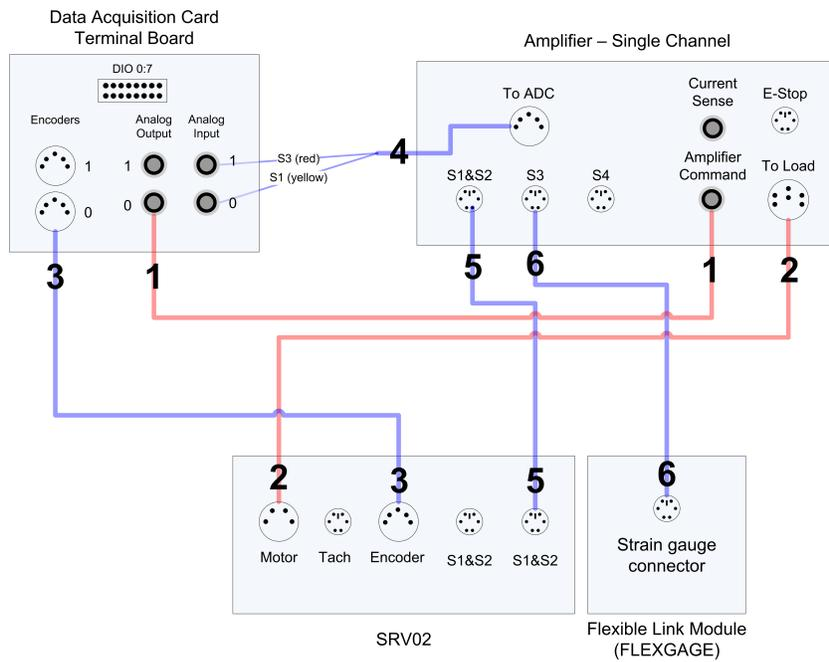

Figure 4.2: SRV02 Flexible Link Typical Wiring Diagram
1. Connect one end of the 2xRCA to 2xRCA cable from the *Analog Output Channel #0* on the terminal board to the *Amplifier Command* connector on the amplifier, ie. Use both white or both red RCA connector. This connection carries the attenuated motor voltage control signal, V_m/K_a where K_a is the amplifier gain. This is shown by connection #1 in Figure 4.2.
2. Connect the 4-PIN-stereo-DIN to 6-pin-stereo-DIN cable from the *To Load* connector on the amplifier to the *Motor* connector on the SRV02. This connection carries the amplified voltage that is applied to the SRV02 motor and is denoted V_m . This is shown by connection #2 in Figure 4.2.
3. Connect the 5-pin-stereo-DIN to 5-pin-stereo-DIN cable from the *Encoder* connector on the SRV02 panel to *Encoder Input #0* on the terminal board. This connection carries the load shaft angle measurement and is denoted by connection #3 in Figure 4.2.
4. Connect the *To ADC* socket on the amplifier to *Analog Inputs #0-1* on the terminal board using the 5-pin-DIN to 4xRCA cable as illustrated by connection #4 in Figure 4.2. The RCA side of the cable is labeled with the channels: yellow is S1, red is S3. The yellow S1 connector goes to *Analog Input #0* and the red S3 connector goes to *Analog Input #1*.
5. **[Optional]** Perform this connection only if using the SRV02 potentiometer (i.e., not the encoder) for servo position feedback. Connect the S1 & S2 connector on the SRV02 to the S1 & S2 socket on the amplifier using the 6-pin-mini-DIN to 6-pin-mini-DIN cable. This connection carries the voltage signal from the potentiometer that is proportional to the load shaft angle and is shown by connection #5 in Figure 4.2.
6. Connect the strain gauge connector on the FLEXGAGE module to the S3 connector on the SRV02 panel using the 6-pin-mini-DIN to 6-pin-mini-DIN cable. This connection carries a voltage proportional to the link deflection and is shown by connection #6 in Figure 4.2.
Table 4.2 below shows a summary of the above instructions. The "Cable #" column uses the numbering convention used in Figure 4.2 to identify each cable.